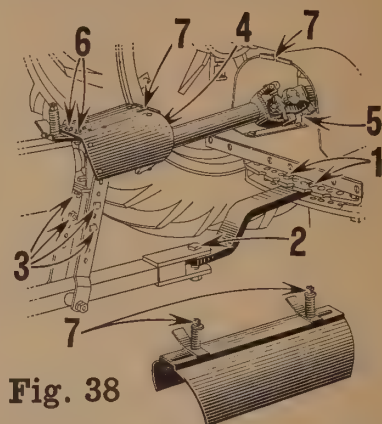

Fig. 38
1. (Fig. 38.) Remove swinging drawbar from tractor and replace it with new extension drawbar furnished. Move swinging drawbar to left of center on tractor drawbar guide and secure in place with bolt as shown.
2. (Fig. 38.) Connect Binder to extension drawbar.
3. (Fig. 38.) Adjust height of power shaft front bearing to level power line as shown.
4. (Fig. 38.) Remove tape around key in front end of telescoping pipe for power drive. Remove cap screw, lugged lock washer and notched retaining washer from front end of telescoping pipe. Slide rear universal joint onto front end of telescoping pipe and replace notched retaining washer, lugged lock washer and cap screw. Be sure to fit bent lug on lock washer into notch in retaining washer and to bend remaining lugs on lock washer over head of cap screw.
5. (Fig. 38.) Slide front splined universal joint onto take-off shaft on tractor and secure in place with clamp bolt and cotter.
6. (Fig. 38.) Bolt power shaft shield to **rear** set of holes in power shaft front bearing housing.
7. (Fig. 38.) Attach universal joint and pipe connection shield to take-off shield on tractor and to shield on power shaft front bearing as shown.